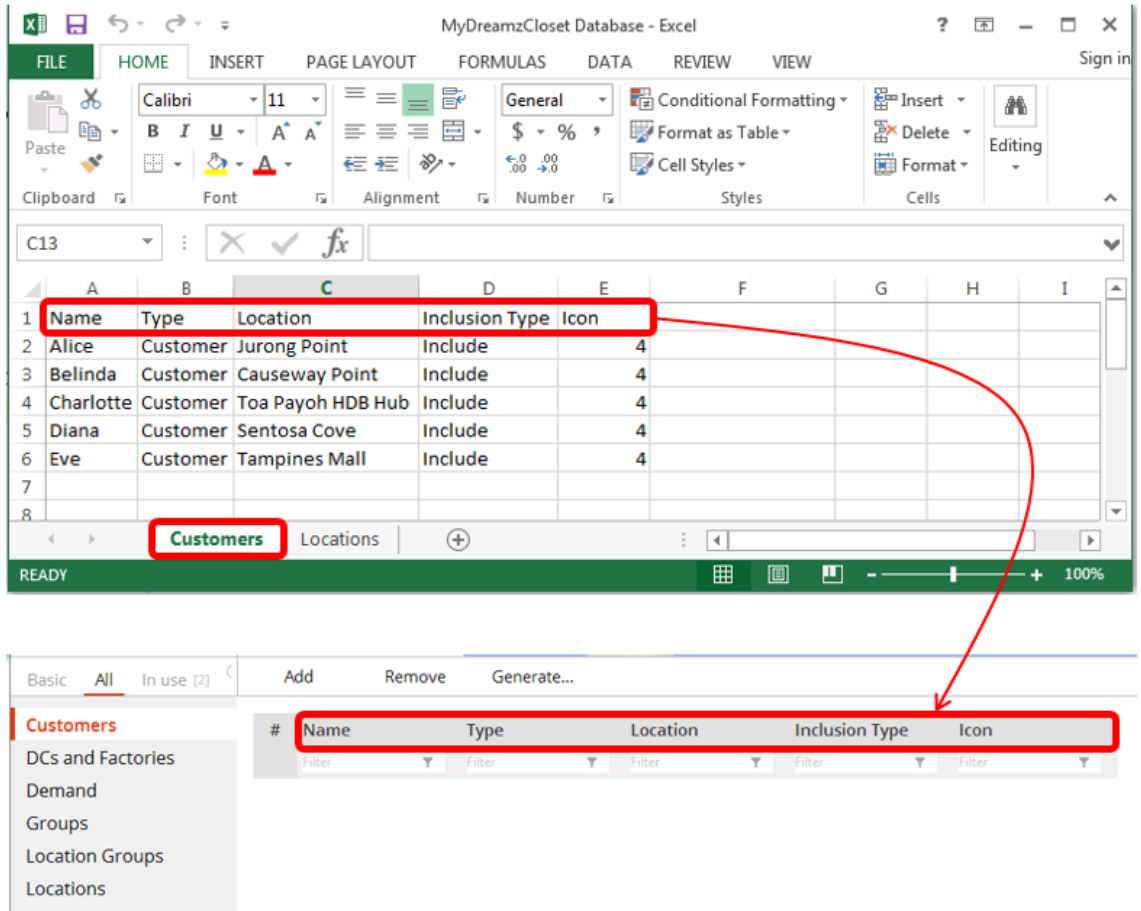

Figure 12: MyDreamzCloset Customer Database Excel Spreadsheet (Customer Tab)
- ✓ Rather than keying in Customers one by one, presume we have an Excel spreadsheet that contains all the customers (shown in Figure 12 below).